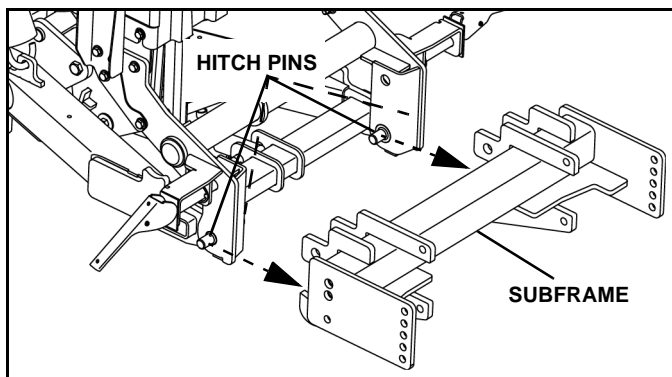

Figure 1-4
3. Set a-frame/tower assembly lower hitch pins into slots on truck subframe. (See Figure 1-4).